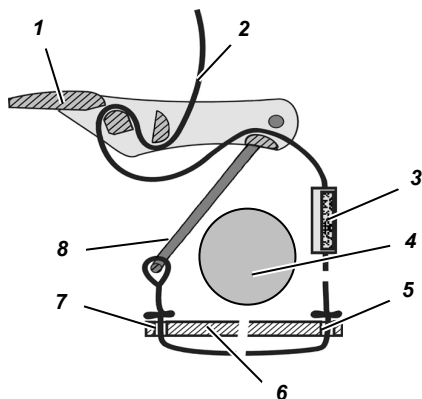

Fig. 34 Short Cylinder Strap
- (1) Thread the cylinder strap (→ Fig. 34) firstly through the slot in the back plate (on the right hand side of the equipment carrier), then through the left hand slot in the back plate and then through the cylinder bracket - align the cylinder bracket vertically.
- (2) Push the Velcro strap onto the cylinder strap with the fluffy side facing outwards